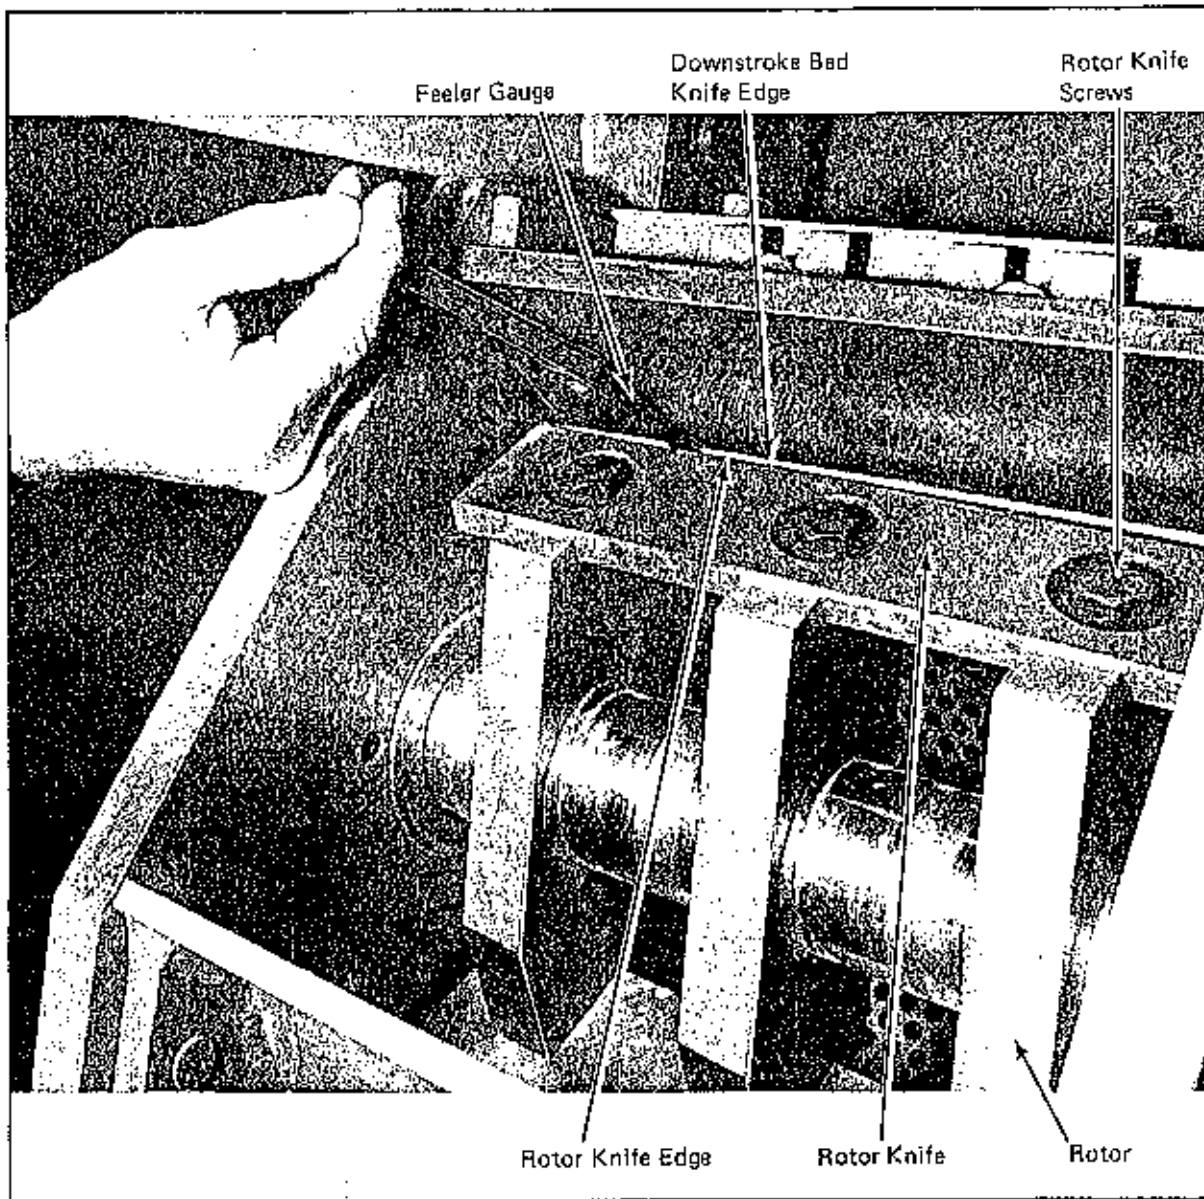

Figure 3-2. Use of Feeler Gauge for Knife Settings
8. Turn the rotor backwards while checking the clearance, to avoid cutting the feeler gauge. (See Figure 3-2.)